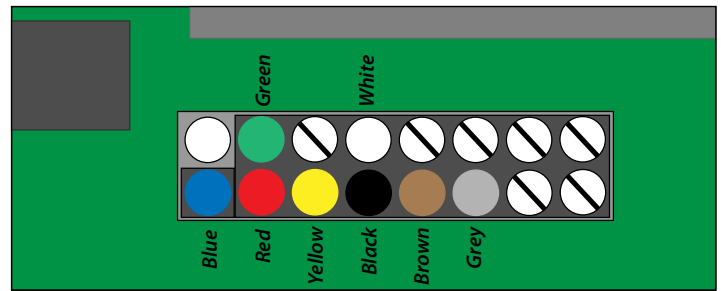

Figure 3.1.4d
9. For the 16-pin head connection, use **Figure 3.1.4d** as a guide for the proper positioning.